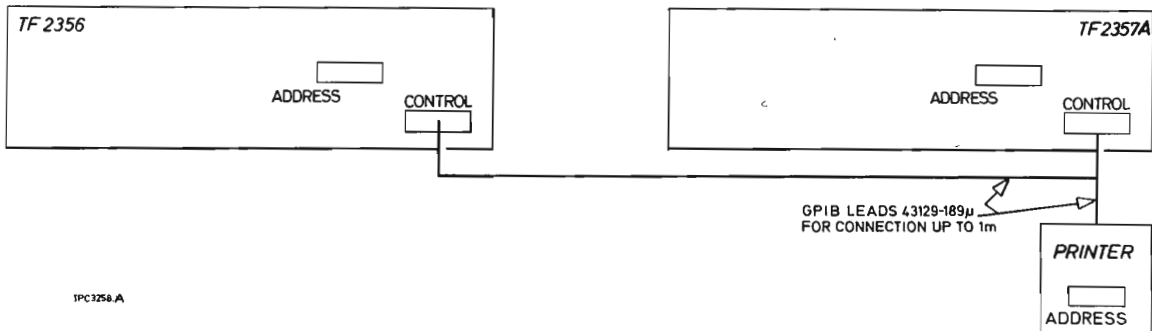

Fig. 8 Connections for control mode operation
46. Sender, receiver and printer rear panel GPIB sockets are inter-connected using two GPIB leads (43129-189U) as shown in Fig. 8. For greatest accuracy in measurements of pilots at high frequencies, connect the receiver's 10 MHz STD-INT OUT socket to the sender's 10 MHz STD-EXT IN socket.